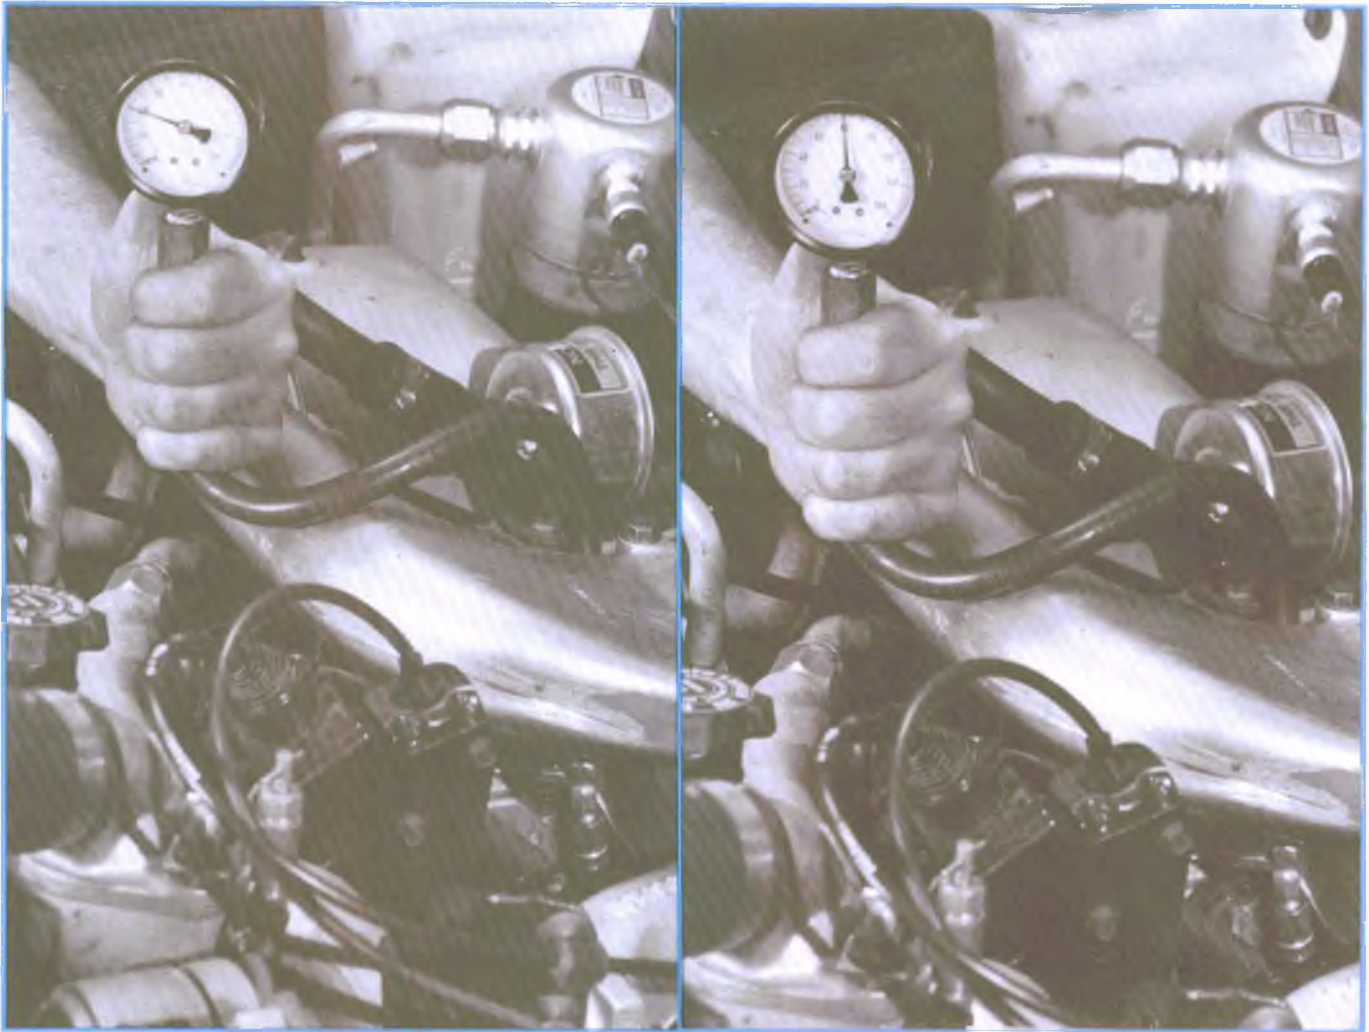

Figure 7-74, Transfer Pump Pressure Check
8. Start and run the engine, observing the gauge reading (see Figure 7-74):